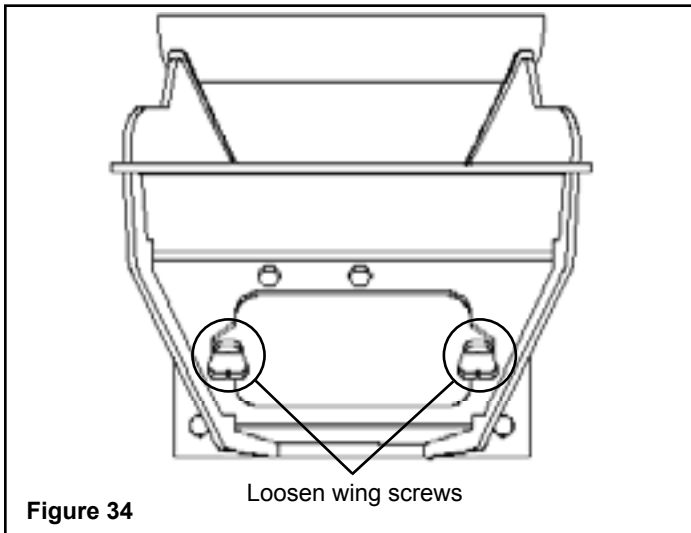

Figure 34
2. Loosen the (2) wing thumb screws on the lower front angle of the burn pot Figure 34. Lift off the clean-out cover (Figure 35) to open the bottom clean-out chamber.